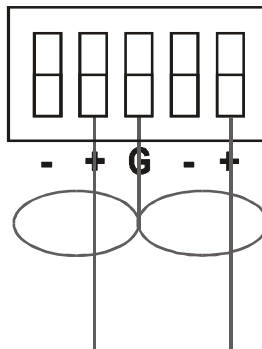

Figure 5: Connecting an Unbalanced Output
- An unbalanced audio output, see Figure 5